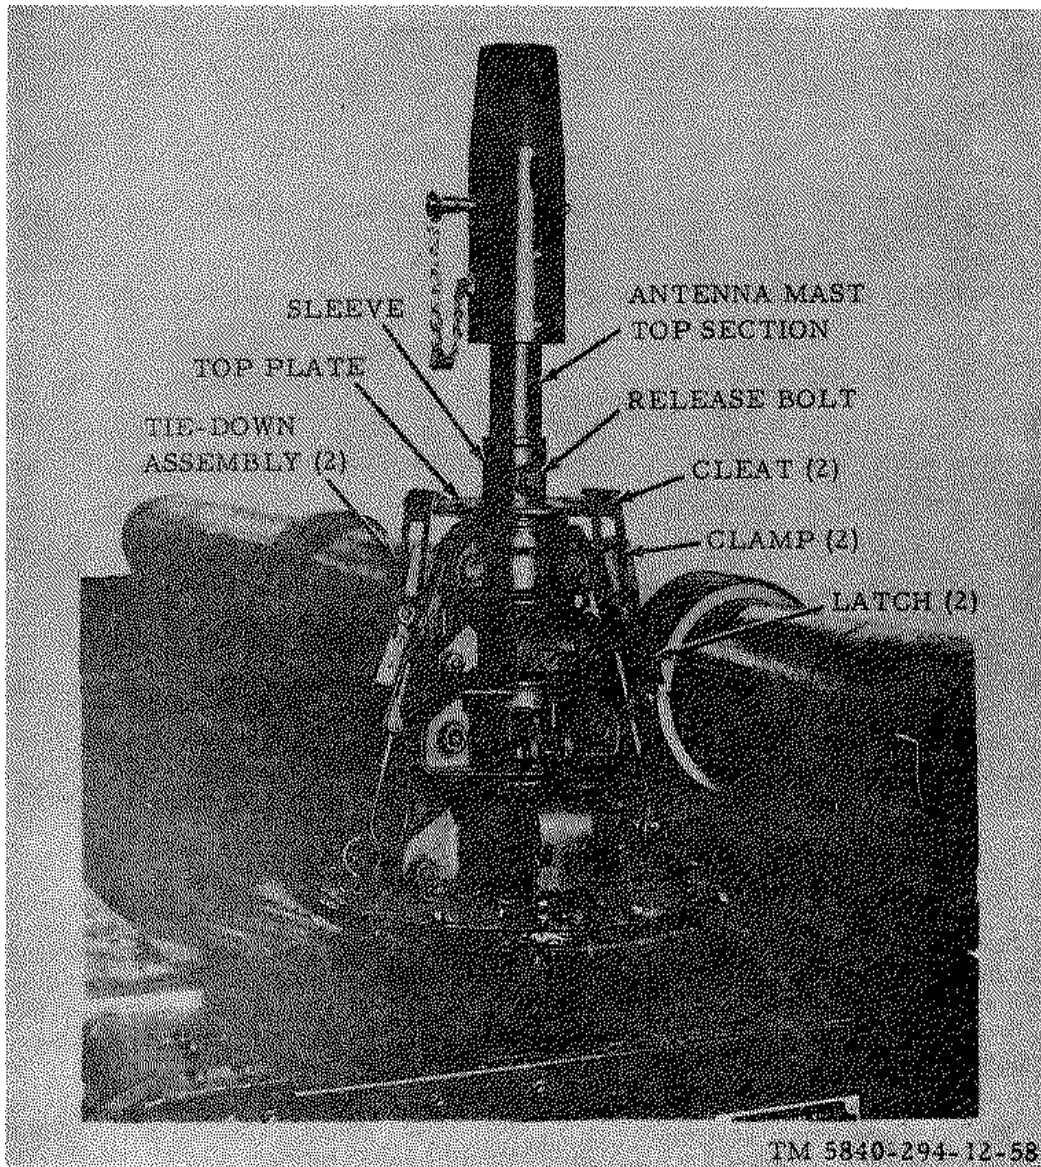

Figure 5-1. Data antenna mast tiedown assemblies
- (1) Attach the clamp ends of the two tie-down assemblies to the cleats (two) on the data antenna mast top plate (fig. 5-1).
- (2) Tighten tiedown assemblies by closing latches.
- (1) Loosen and remove release bolt (fig. 5-1).